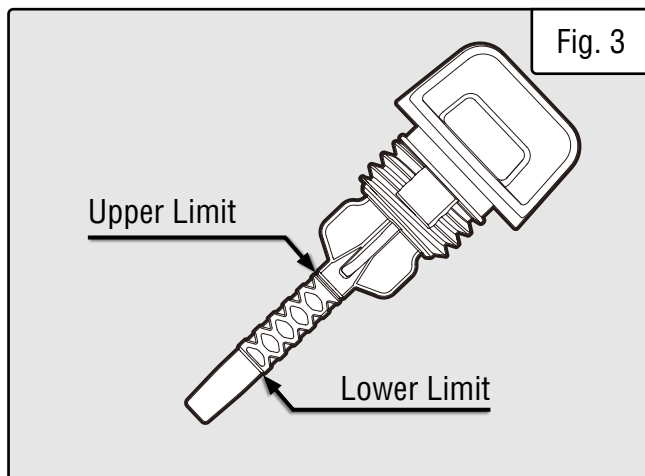

Fig. 3
3. Insert the dipstick into the oil fill without screwing it in. Remove the dipstick to check the oil mark (Fig. 3).